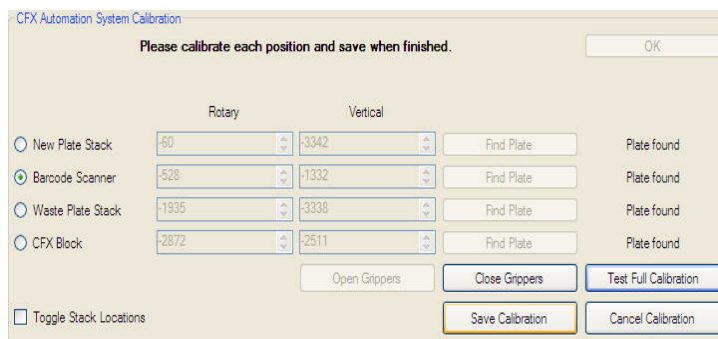

Figure 24. Saving the calibration.
- Once the test run is completed, click the **Save Calibration** button to save the offsets (Figure 24).